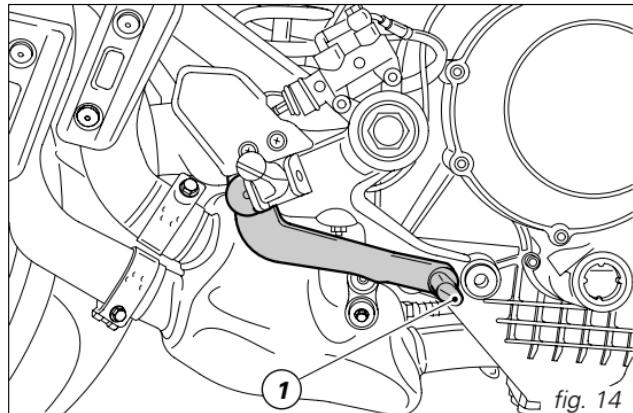

fig. 14
**Rear brake pedal** (fig. 14)